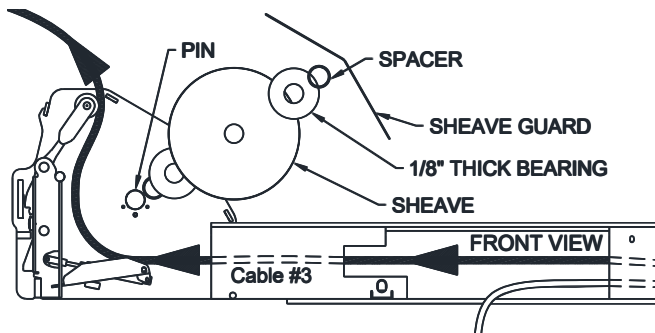

Fig 13 - Cable #3 Routing
- 33) Route **Cable #2** through the Power side access hole and up and out the end of the Front Crossbeam in the same way **Cable #3** as shown in **Fig 13**.